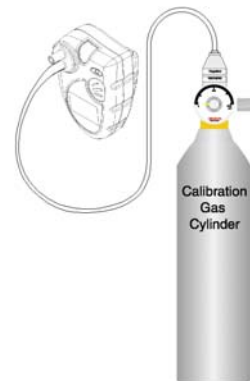

Figure 3.4 Proper bump-test/span calibration set-up for toxic sensor-equipped instruments.
4. Apply the calibration gas as shown in figure 3.4.
- Apply calibration gas as shown above in figure 3.4. Once calibration gas is detected, the readout will change to show the gas reading. Note that the negated horn symbol is shown at lower left to indicate that the alarms are not operating because the instrument is in calibration mode.
1. Apply "Zero Air" calibration gas to the instrument as shown above in figure 3.4 for at least 15 seconds or until the readings fully stabilize.